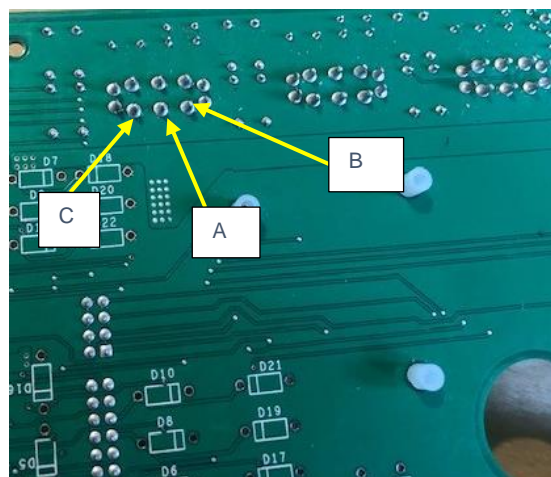

Figure 181
20. If the wires have continuity then the switch must be checked. Continuity between pin A and pin B, When the switch is in the flex position and pin A and C when the switch is in the rigid position. Figure 181